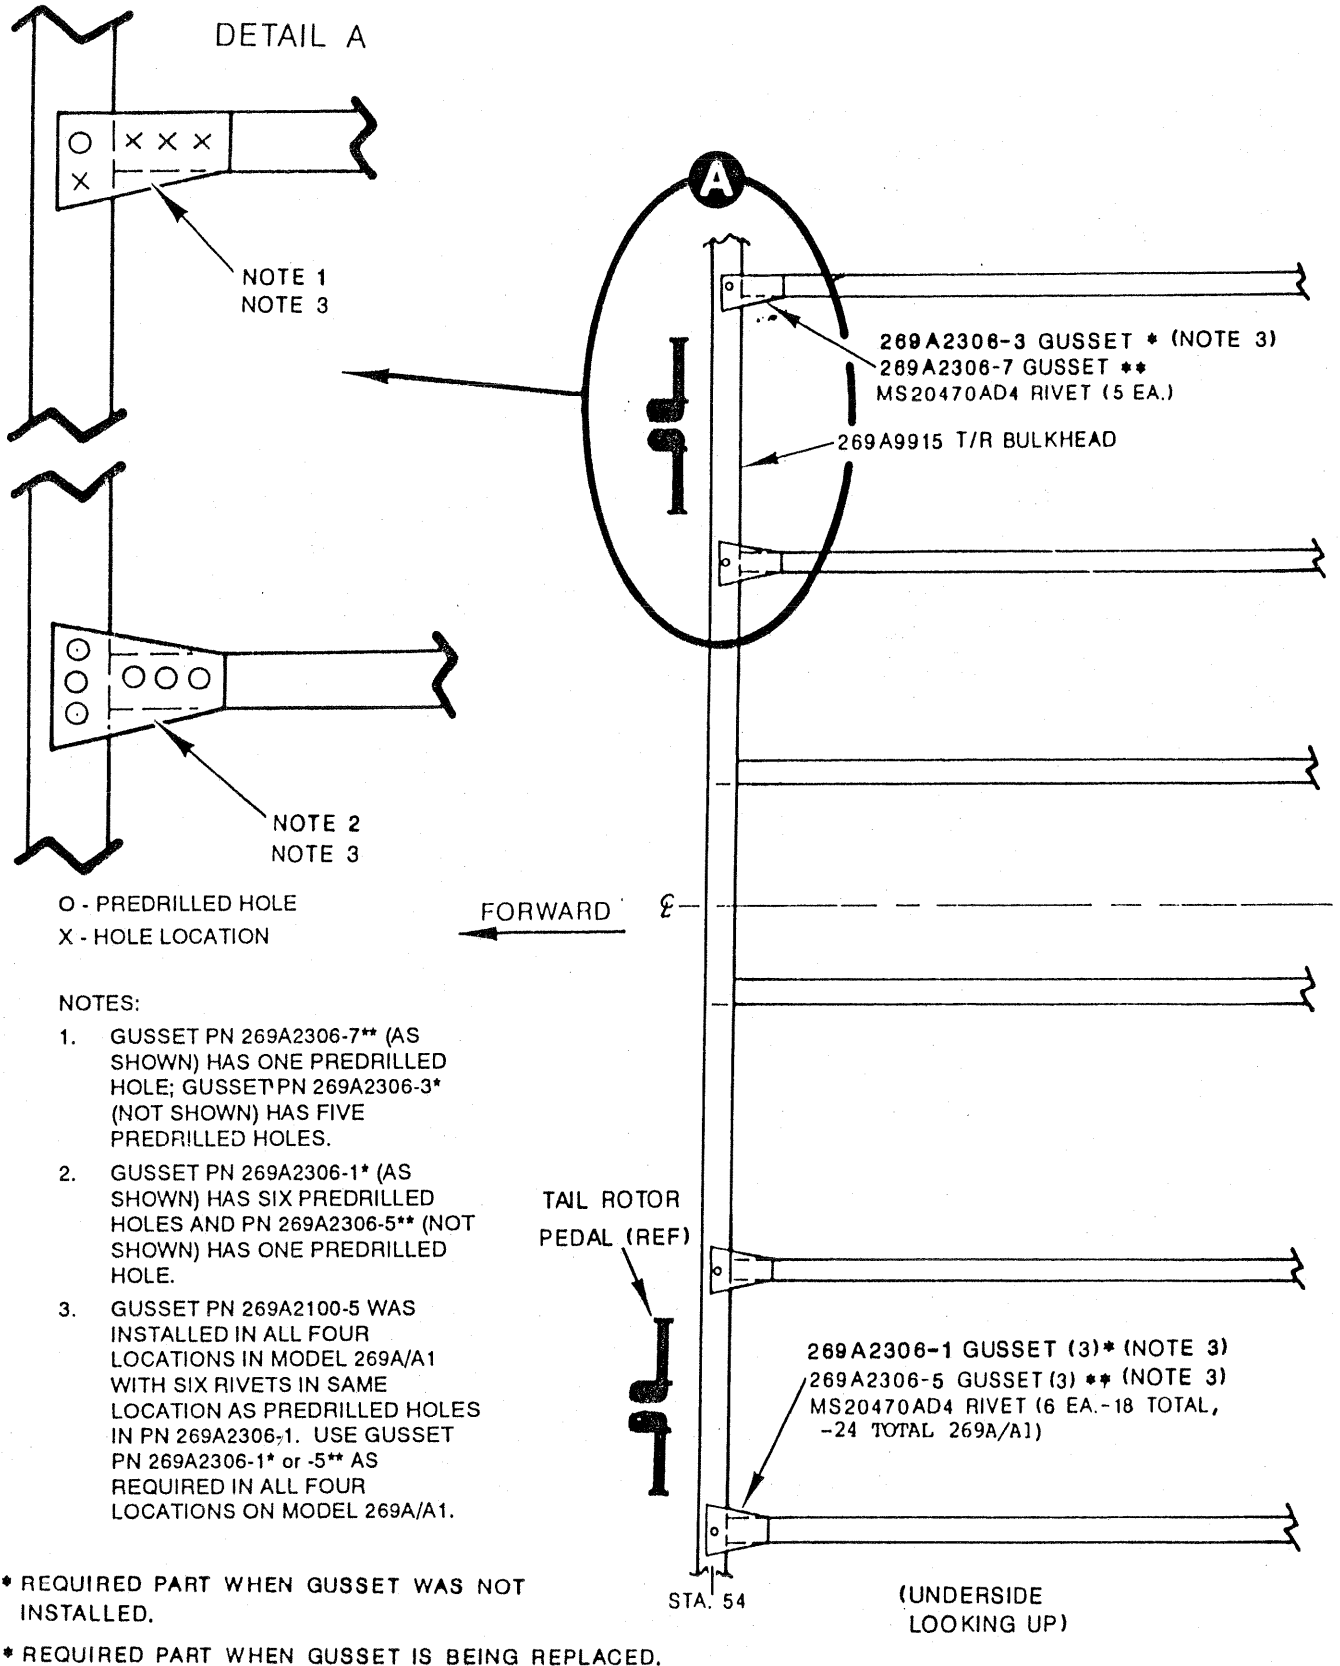

Figure B-247-1. Floor Construction
- b. Locate fuselage Sta 54.0 beam (tail rotor pedal bulkhead) (Figure B-247-1).
Refer to Figure B-247-1 for location and installation of gussets and location of rivets.
- a. Carefully remove rivets from gusset (Figure B-247-1).